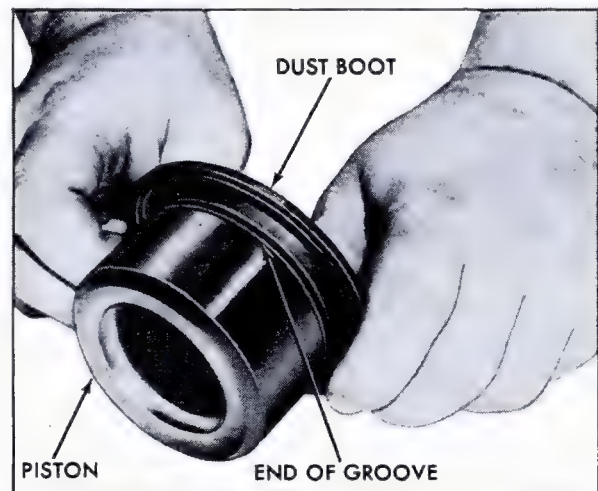

Fig. 5-14 Assembling Dust Boot on Piston
4. Assemble new dust boot on piston, so that inner diameter of boot is secured in groove and boot fold faces away from closed end of piston, Fig. 5-14.